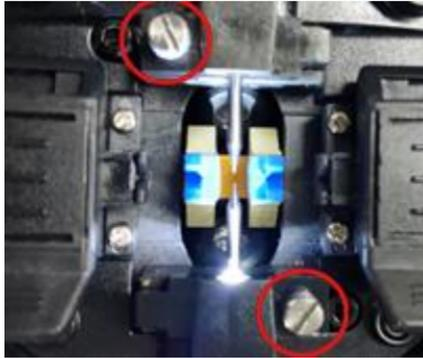

Figure5.5-1 Remove the electrodes cover
2. Loosen setscrews of electrodes cover and remove the electrodes cover, as shown in Figure 5.5-1.